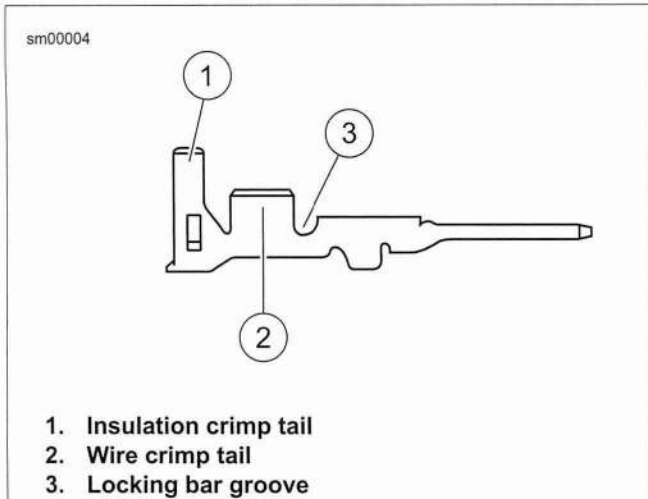
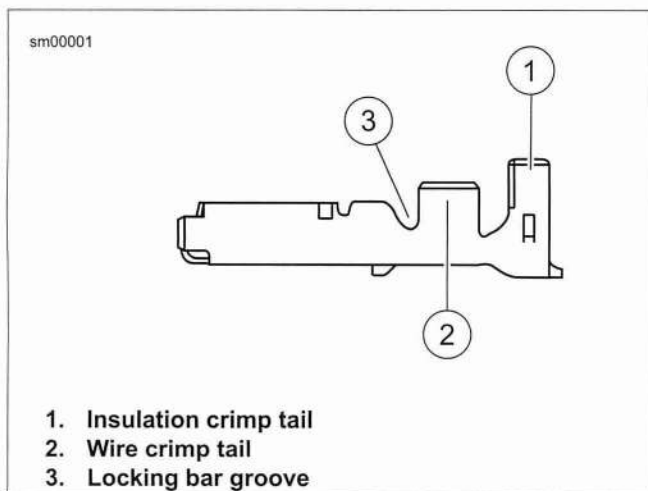

Figure A-58. Tyco 070 Multilock Unsealed Connector: Pin Terminal
Figure A-59. Tyco 070 Multilock Unsealed Connector: Socket Terminal
- See Figure A-58 and Figure A-59. Select the pin/socket terminals from the parts catalog and identify the insulation crimp tails (1) and the wire crimp tails (2) and the groove for the crimp tool locking bar (3).
See Figure A-58 and Figure A-59. Hold the terminal with the insulation crimp tail (1) facing up. The tool will hold the terminal by the locking bar groove (3) and crimp the wire crimp tail (2) around the bare wire of the stripped lead and the insulation crimp tail around the insulation.